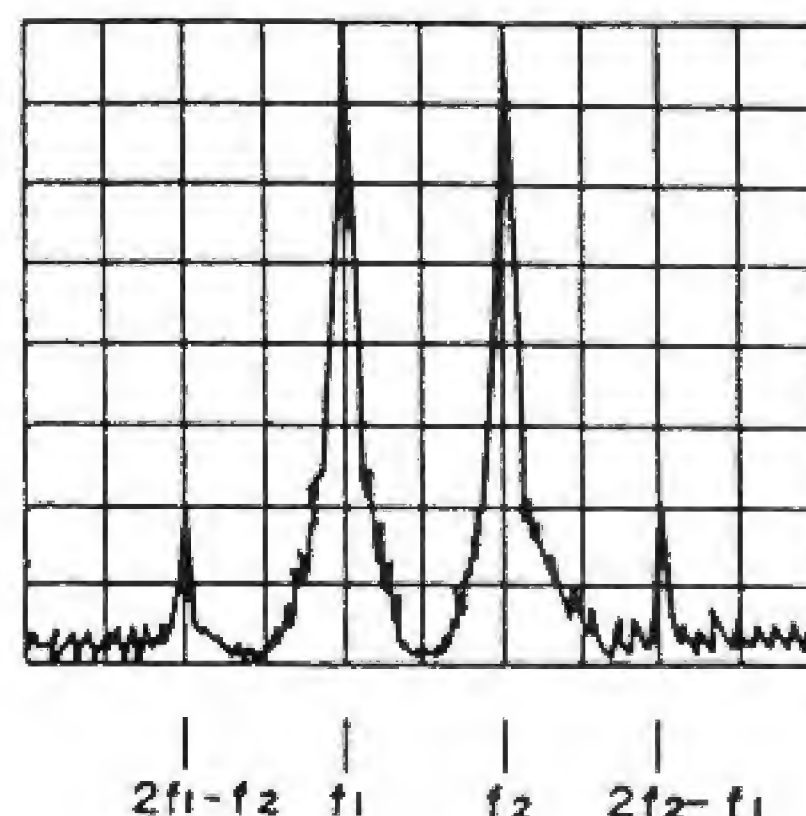

Fig. 3-18 Inter Modulated Wave Spectrum
(2) Inter modulation product measurement
In this case, the screen display shown in Fig. 3-18 is obtained by the display expansion measurement procedure (1) of paragraph 3.4.5 and the level of each spectrum is measured.
(3) Random spurious signal measurement